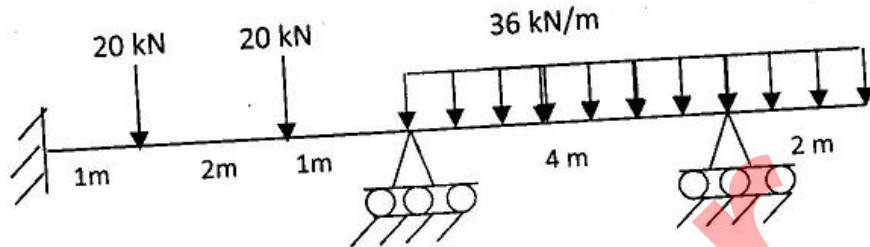

Figure 2
- 14 Analyse the beam shown in figure 2 by Flexibility matrix method and draw BMD. EI is constant.